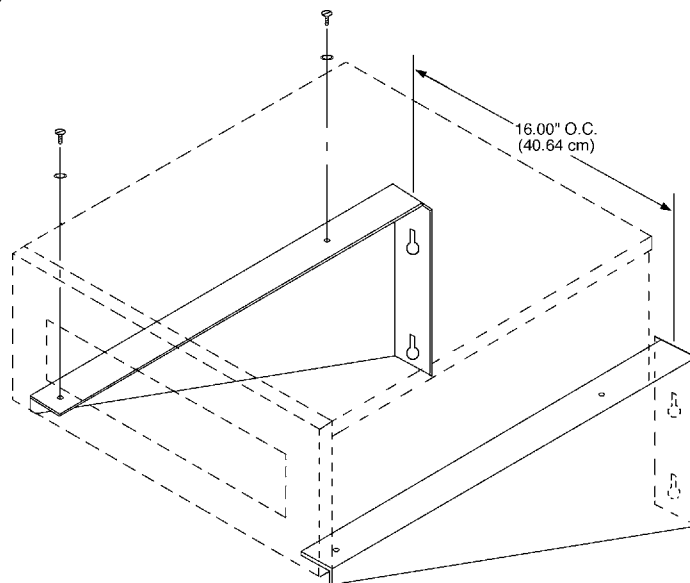

Figure 1. LB1000MT Wall Mount Installation
3. Line up the PEM nuts in the LB1000MT wall bracket with the holes in the bottom of the lock box. Install as shown in Figure 1, using the provided screws and lock washers to securely install the lock box to the mounting brackets.